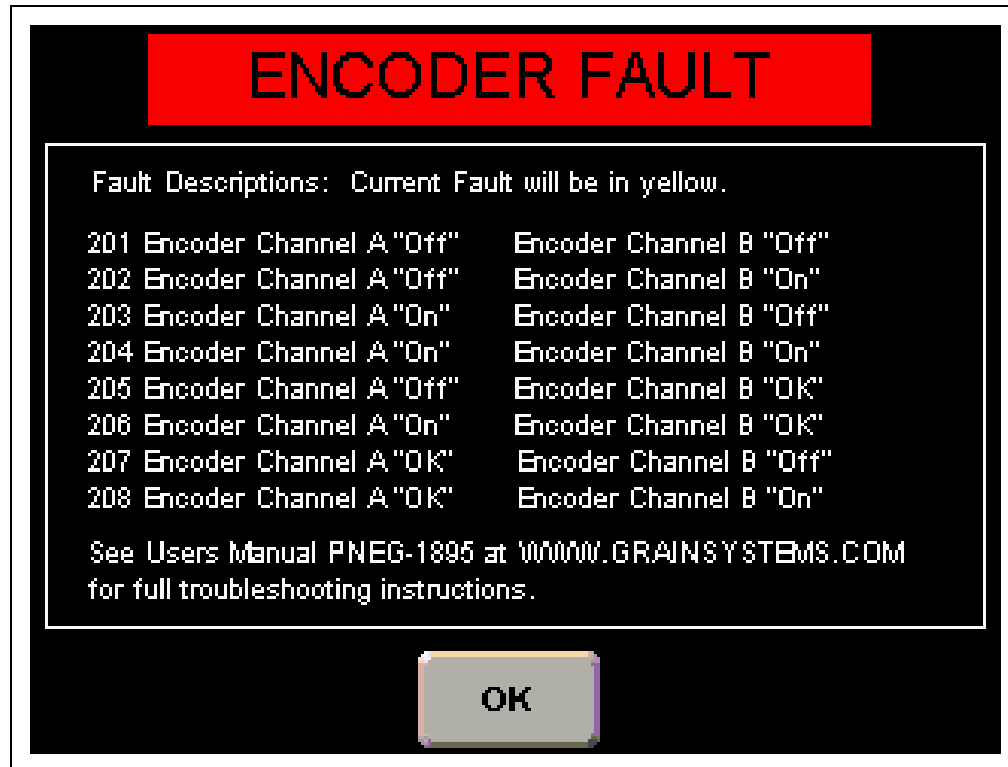

Figure 4U Encoder Fault Screen
**Encoder Fault:** Displays the “Encoder Fault” screen which displays fault codes and solutions for faults related to the function of the encoder during movement. (See Figure 4U on Page 33.)